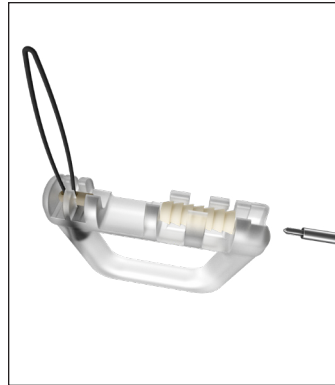
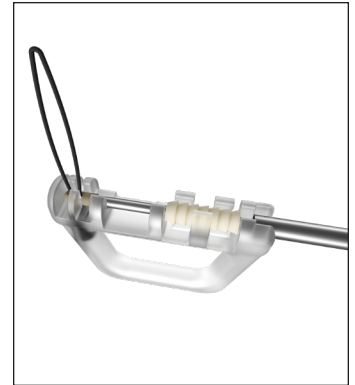

Figure 4.1
Figure 4.2
**a)** Open packaging containing the implant cartridge. Align the implant inserter with the suture anchor body on the cartridge and with the suture loading loop pointing away from the inserter tip (Figure 4.1). Advance the inner shaft of the inserter up through the suture anchor body and into the PEEK eyelet (Figure 4.2).